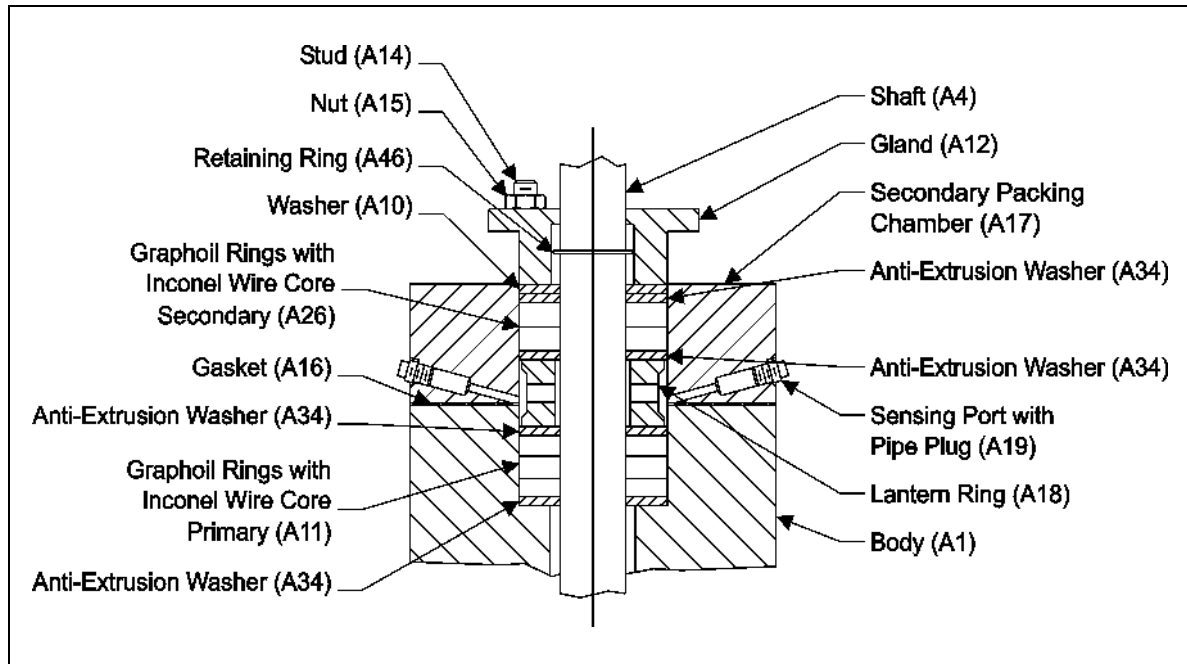

Figure 9 — Packing Option (G2D)
- b. Place the primary (lower) set of new packing (A11) and anti-extrusion washers (A34) in the body, one ring at a time, as shown in Figure 9.
- f. Place the following parts in the configuration shown in Figure 9: